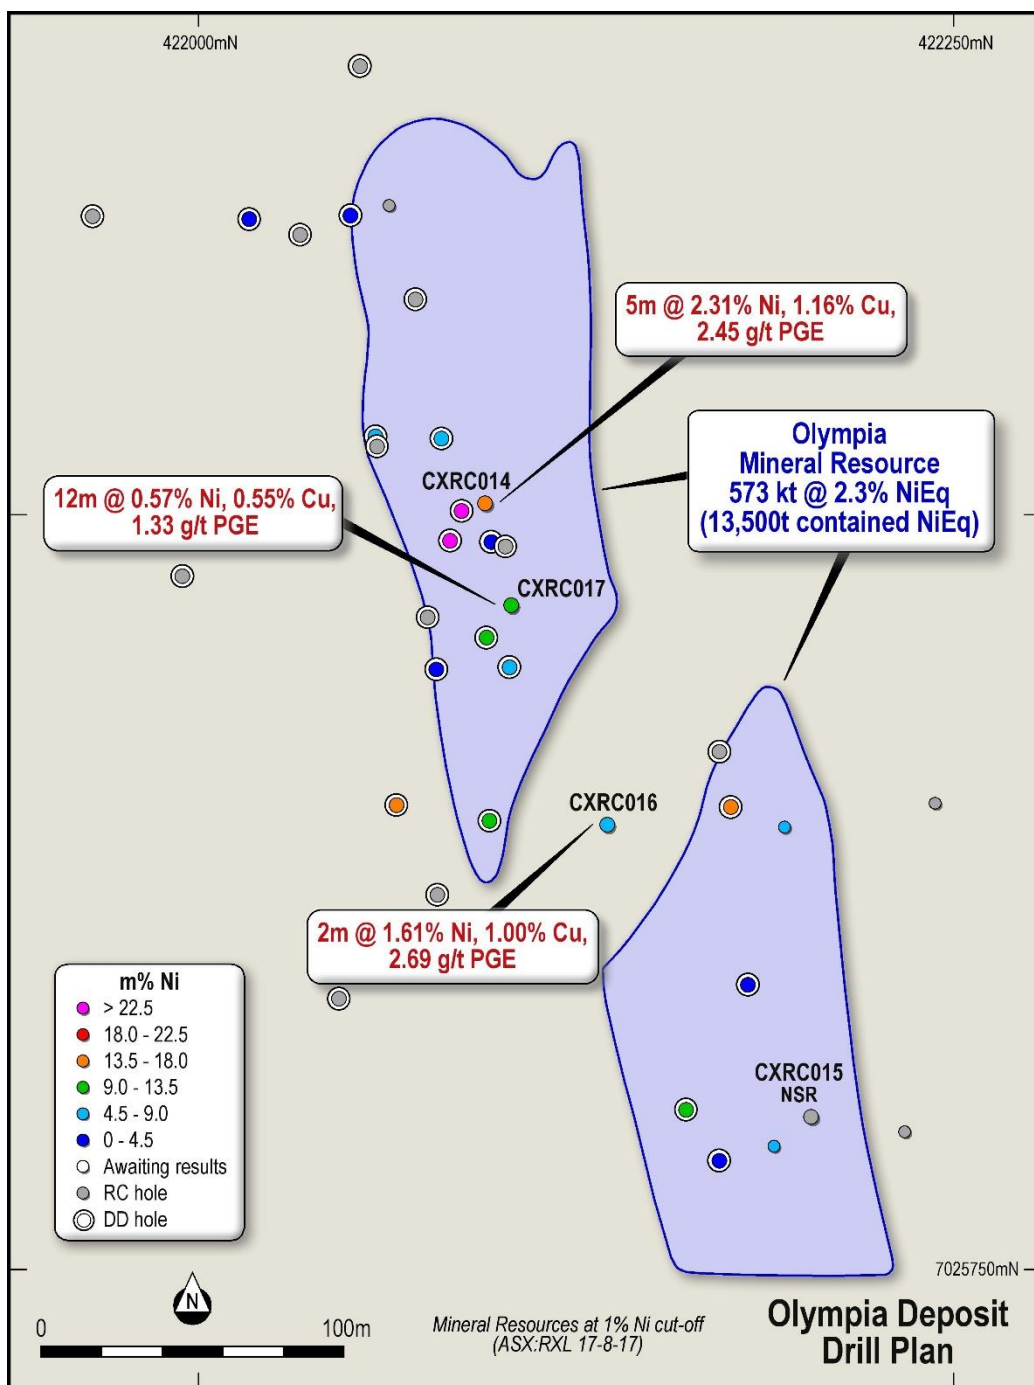

Figure 4: Drill Plan – Olympia Deposit
- To test the upper portions of the Olympia deposit (Figures 4 - 6) for continuity of mineralisation in areas where there were large gaps in the drill spacing